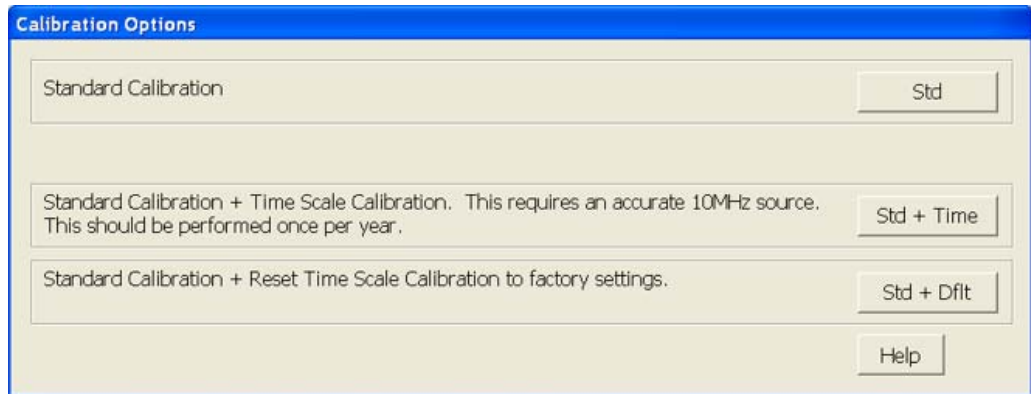

Figure 99 Time Scale Calibration Dialog box
- c During the calibration of channel 1, you will be prompted a Calibration Options screen, as shown in Figure 99 below.